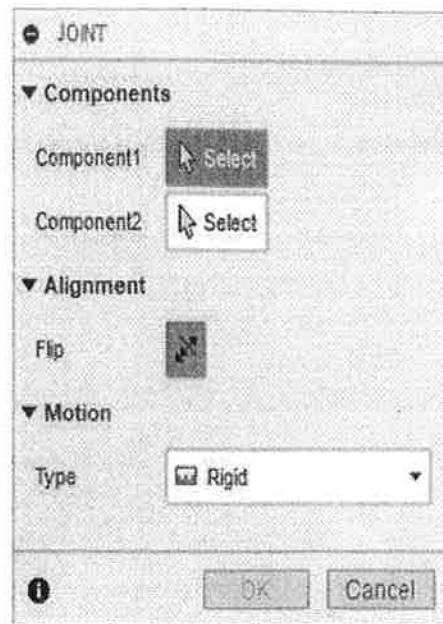

Figure 14-27
5. In the ASSEMBLE panel, click  (Joint). The JOINT palette opens as shown in Figure 14-27.